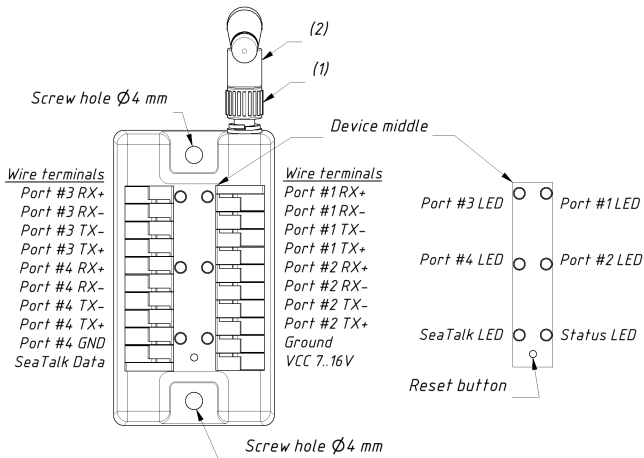

Figure 1. Router wire terminals (left) and LED's scheme (right)
If the antenna is not connected, connect the antenna first. Part (2) of the antenna base (see Figure 1) rotates relative to part (1) with notches. The angle of the antenna changes between horizontal and vertical positions. The signal is better when the antenna has a vertical orientation.
The ground wire of high-speed ports (38400 bps) should be connected to the Router's ground terminal. In case of connection to isolated port #4, the ground wire of the equipment should be connected to the dedicated ground terminal of port #4 ("Port #4 GND" at Figure 1).